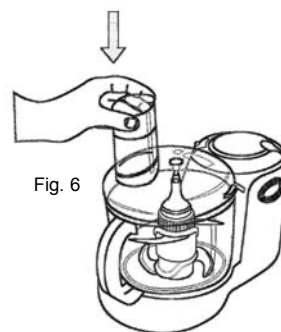
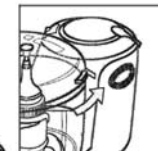

Fig. 6
Fig. 7
4. Then holding the processor lid by the feeding tube, place the processor lid onto the bowl and turn counter clockwise to lock the lid in place. Ensure that the lid tab has "clicked" into place and that the arrow on the lid is aligned with the dot on the unit. (Fig. 6 & Fig. 7)